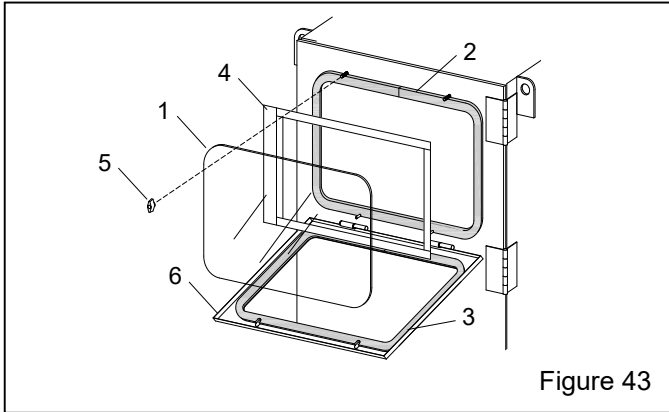

Figure 43
9.3 Access Window Assembly – Figure 43